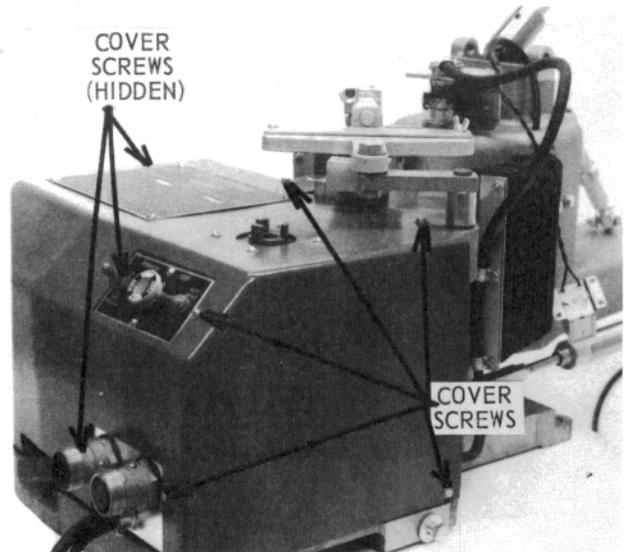

Figure 69 – Cover
- 6.1.5 Remove cover by taking out the eight cover screws (see Figure 69).